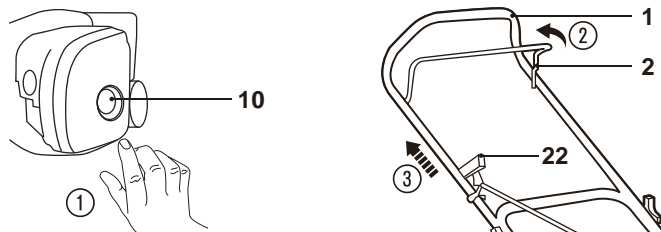

Fig. 18
1. Press the primer (10) three to five times (Fig. 18, step 1).
2. Stand behind the handle (1).
3. Pull the brake bar (2) against the handle (1) and hold it in position with one hand (Fig. 18, step 2).
4. Pull the recoil starter handle (22) lightly until you feel resistance then pull it rapidly. Do it again until the engine starts (Fig. 18, step 3).
5. When you are ready to mow, hold the brake bar (2) with both hands with the handle (1). Pushing the mower forward and the mower begins mowing.